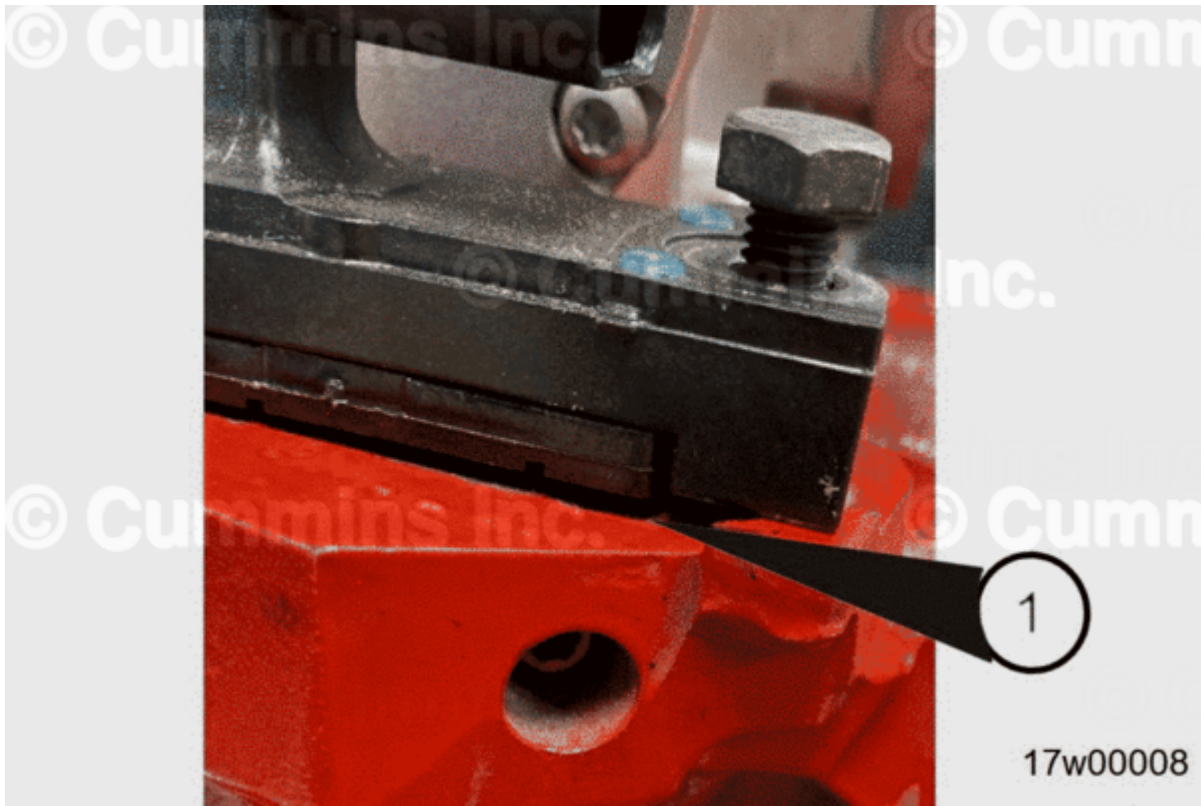

Figure 6, Incorrectly Installed Differential Pressure Sensor Sitting Unevenly On The Air Intake Connection Lip.
- Verify differential pressure sensor is completely flat before tightening capscrews. If installed incorrectly, the air intake connection lip would make differential pressure sensor uneven on the surface. See Figure 6 below.